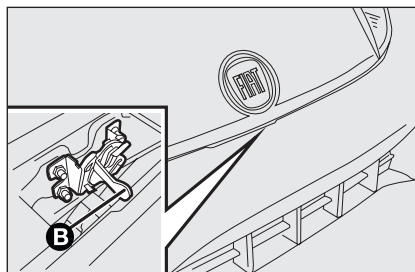

fig. 94
- ☐ pull the lever **B**-fig. 94 and lift the bonnet;